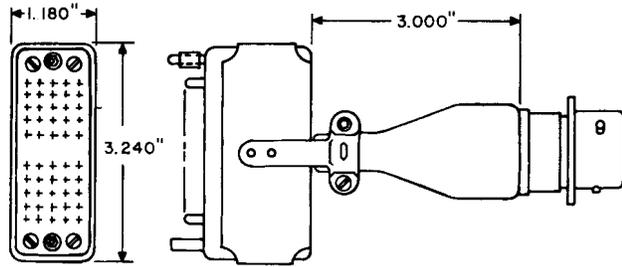

Fig. 6—264A Adapter
**2.06 264A:** The 264A adapter (Fig. 6) consists of a 55-pin Bendix connector which is installed onto the 152A test set cable and connects to the 3M cable supplied in their 4048 kit. When used in this manner, the 152A test set will perform checks for the 3M connector similar to those performed for the Bell System 710 SECS connector. The adapter is an accessory for the 152A test set, but may be purchased separately when desired. This adapter is used to adapt the 3M 4048 25-Pair Connector Kit to the 152A test set.